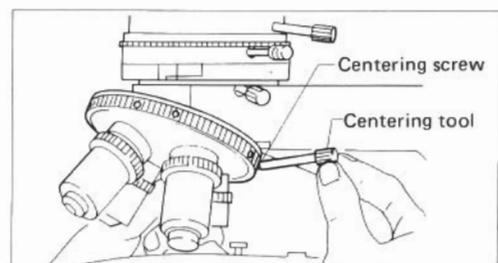

Fig. 14
- 2) Insert the centering tools in the centering screws on the nosepiece. (Fig. 14)